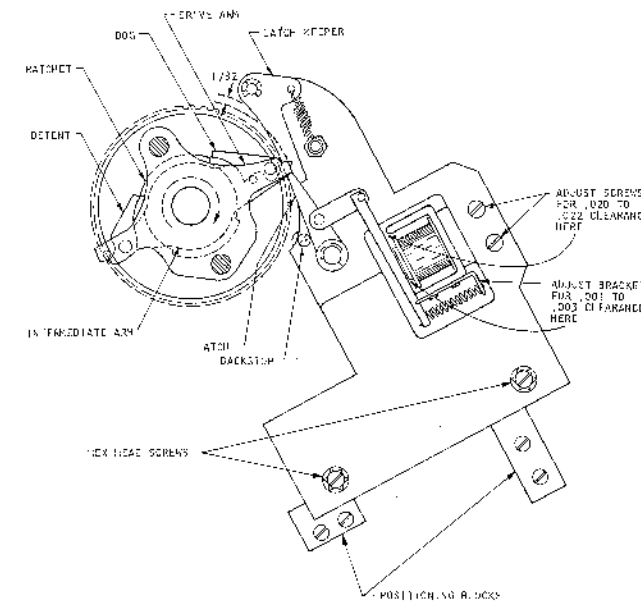

Figure 8. Magnet Assembly Adjustment
To see the engaging action of the clutch, assume the clutch is latched as shown in Figure 8.
1. Adjust the armature pivot bracket to maintain a .001" to .003" clearance between armature and core (Figure 8).
2. While holding the keeper down, crank the machine and listen or feel for the keeper to fall behind the drive arm. This should happen at $315^\circ \pm 1^\circ$ (Figure 8).